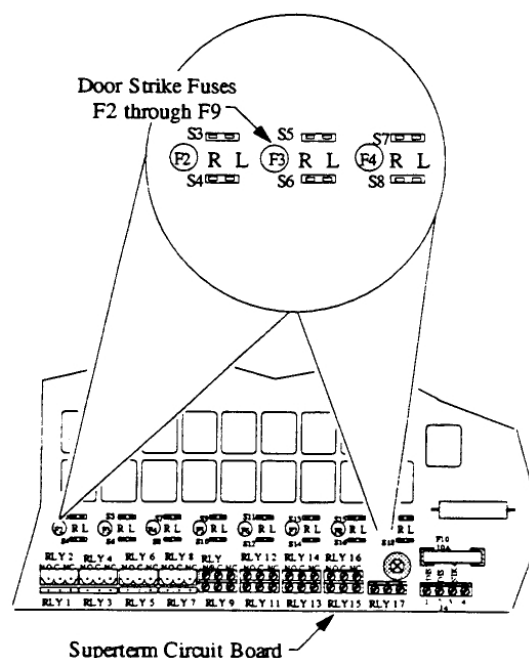

Figure 52 - Door Strike Fuse Location
Eight 2-ampere (2A) slow-blow fuses protect the door strike relays. These fuses are located in line across the lower center surface of the Superterm circuit board (see Figure 52).
- 2) Locate the faulty door strike fuse (F2 - F9) (see Figure 52). 3) Using a non-conducting fuse puller, remove the old fuse.